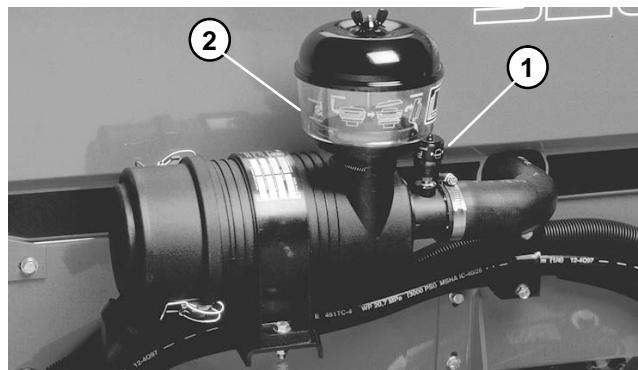

Figure 20
3. Service air cleaner filters whenever air cleaner indicator (Fig. 20) shows red or periodically as recommended in the maintenance schedules in Chapter 2 - Product Records and Manuals (more frequently in extreme dusty or dirty conditions). Do not over service air filter.
5. Reinstall cover and secure latches. Reset indicator if showing red (Fig. 20).